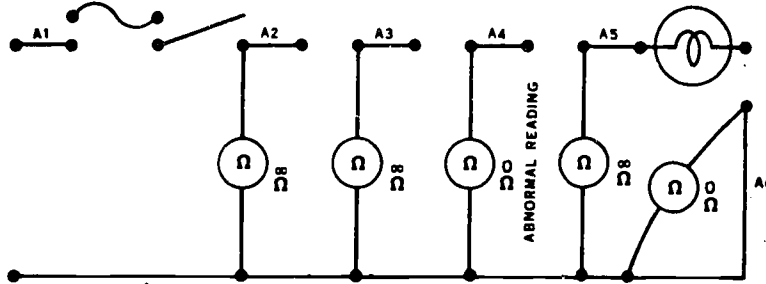

Figure 57. Locating a Direct Short
Some kind of a continuity test, such as with an ohmmeter, should be used in locating direct shorts. The positive leads should be isolated and the testing devices connected across the isolated leads. Notice in Figure 57, an ohmmeter is being used to locate contact between isolated positive leads and the negative lead. Only the ohmmeter connected to A-4 lead indicates continuity (0); therefore, a-4 lead must be touching the negative side of the circuit, providing a shortcut for current to flow.